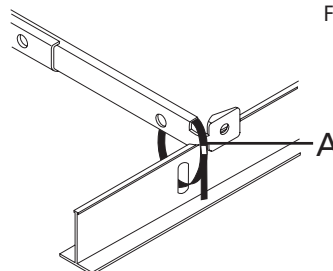

Figure 4
4. Secure the bar hangers to the t-bar by wire or wiretie (by others) or bending end of bar hanger. Refer to Figure 4.
7. If fine tune adjustment from below ceiling is required: Loosen (2) 5/16" screws (A) 180° apart, allowing fixture to drop down so bottom edge of plaster flange will be slightly above edge of ceiling material.